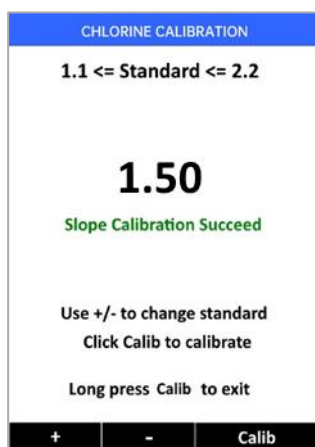

Figure 31 Slope Calibration with Known Chlorine Standard
10. “Slope calibration succeeds” will be displayed if slope calibration completed (Figure 31).